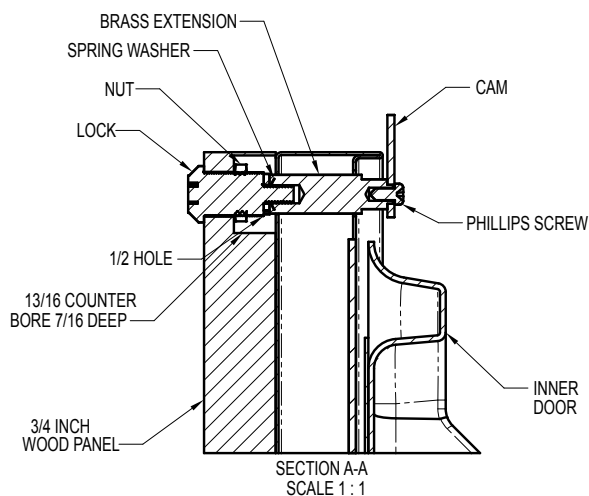

Figure 26
Two (2) lock extensions are provided with the lock. Use the longer extension for  $\frac{3}{4}$ " thick integrated panels and the shorter one for  $\frac{5}{8}$ " thick integrated panels. Assemble the lock extension, cam stop washer, spring washer, and set screw to the lock as shown in Figure 26 and 27.